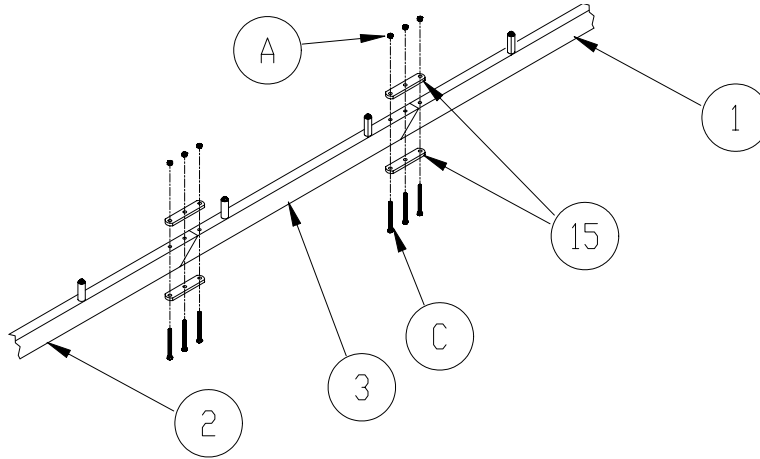

Figure 2-2.
4. Refer to **Figure 2-2**. Assemble (2) sides of your canopy frame on the ground using (1) left hand, right hand and center stringer for each side assembly. Fasten each joint together with (2) three hole plates and hardware shown. Each stringer assembly **MUST** be straight for proper fabric fitting.